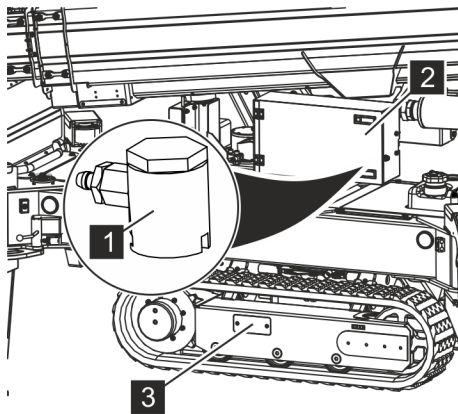

Fig. 215: Slide coupling
9. ➔ Stow the slide coupling (Fig. 215/1) back in the hydraulic control box (Fig. 215/2).
10. ➔ Screw the maintenance cover (Fig. 215/3) in place.